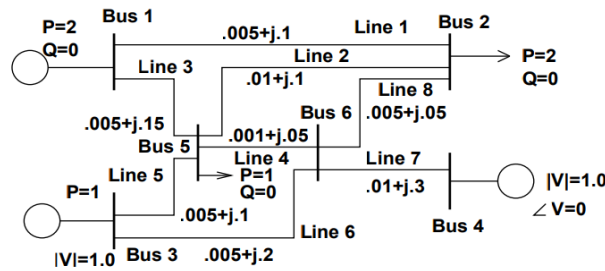

Figure 1: Load Flow Problem
4. Figure 1 shows a load flow situation. There are two generators, one generating at unity power factor, the other under voltage control. The generator on bus 1 is producing two per-unit real power and zero reactive power. The generator on bus 3 is providing one per-unit real power and is controlled to